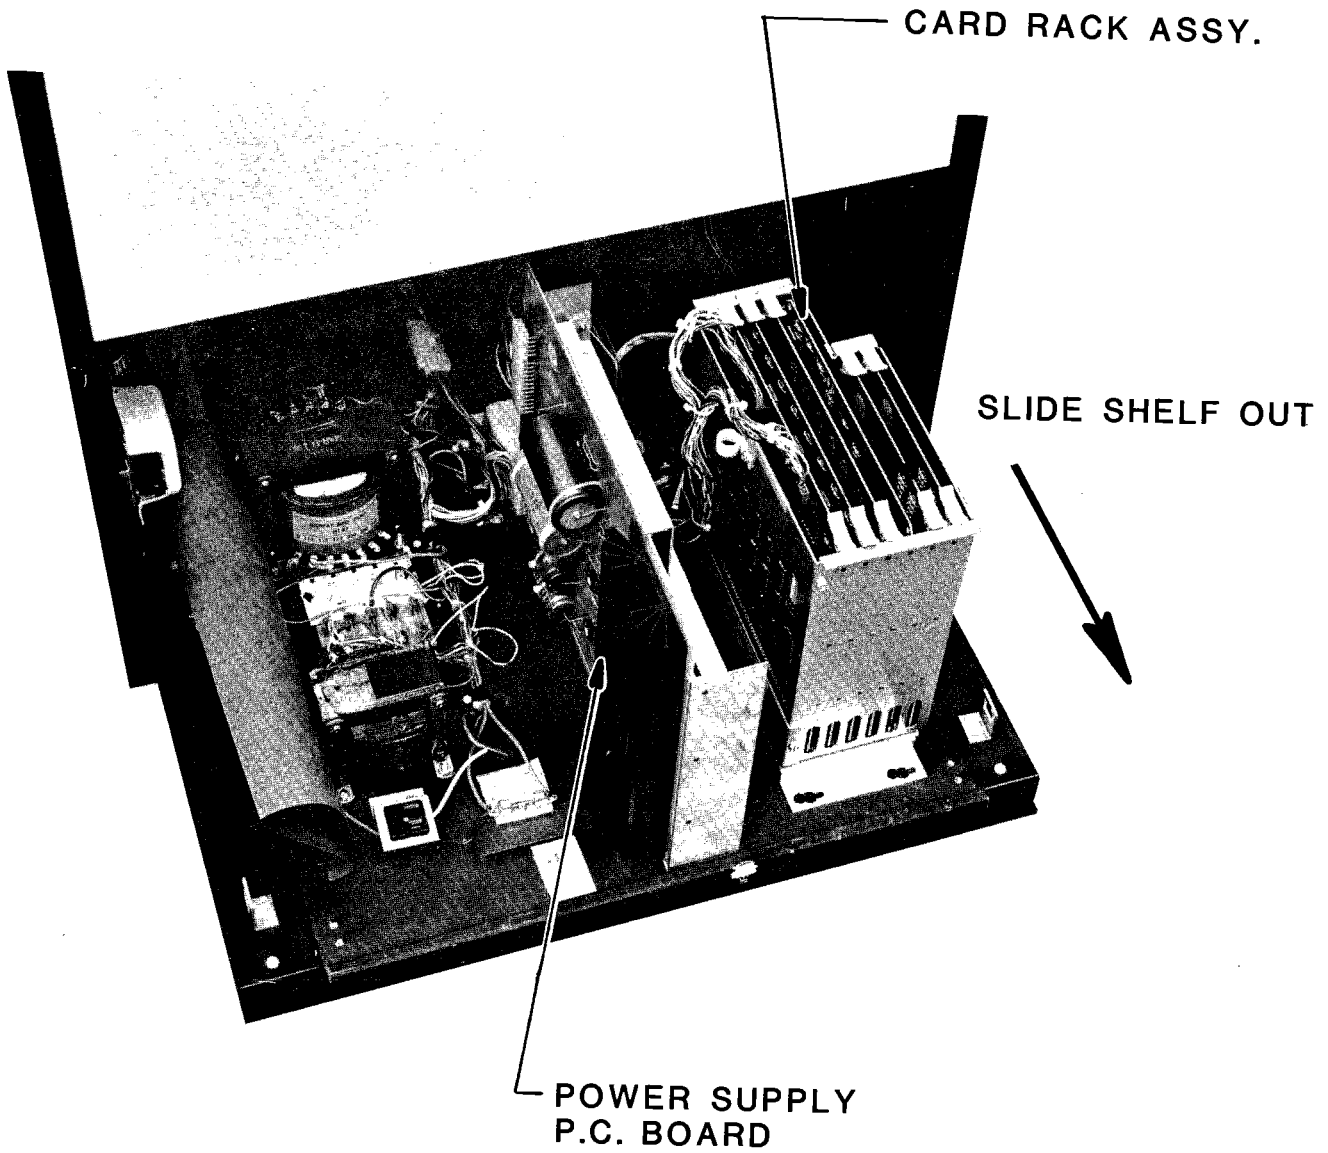

FIG.23
- e. To remove the cards from the commercial card rack, simply lift on their extractors and remove them. See Figure 23.
- d. To remove any of the P.C.B.'s from the commercial card rack: (See Figure 23.)